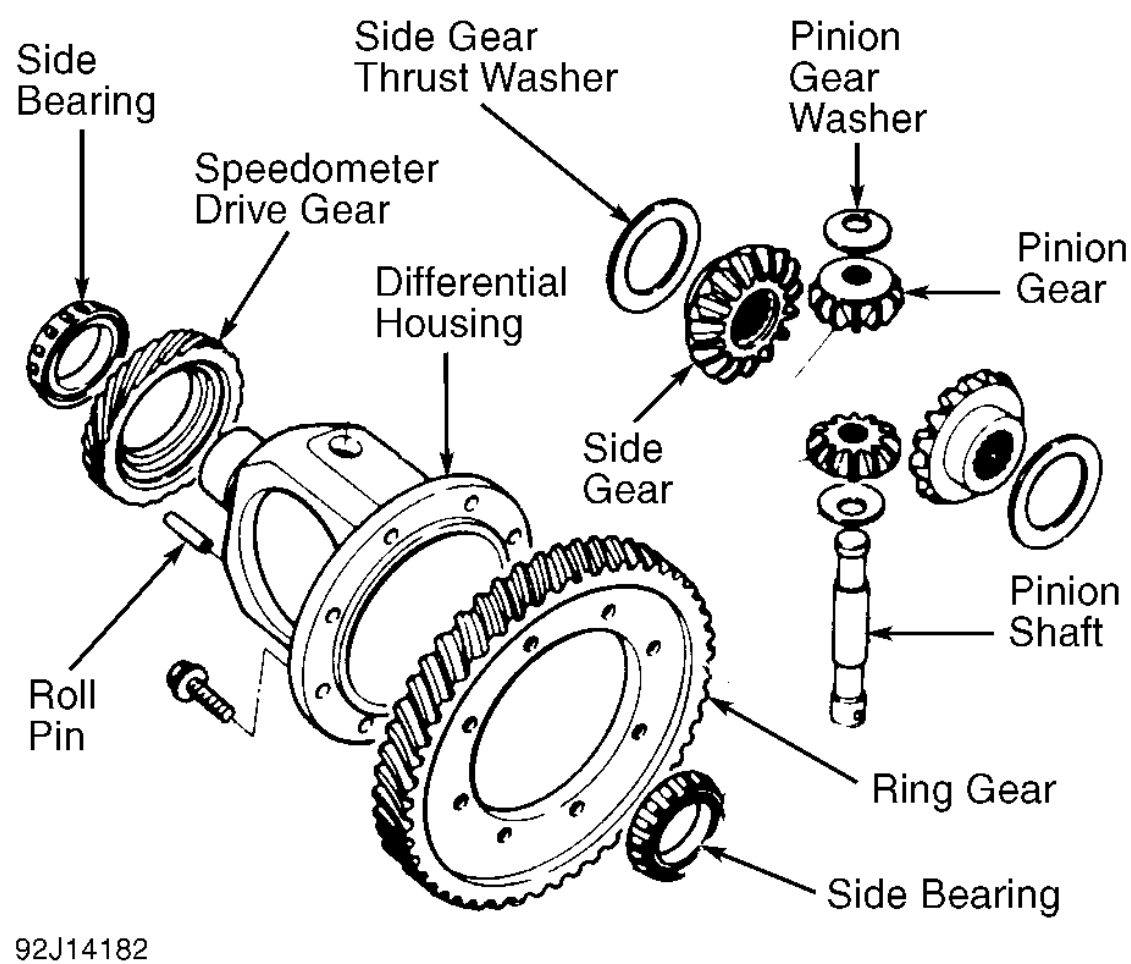

Fig. 12: Exploded View Of Differential Assembly
- 1. Remove ring gear retaining bolts and ring gear. Using hammer and pin punch, drive out roll pin. See Fig. 12 . Push out pinion gear shaft. Remove pinion and side gears, with washers, from differential housing.